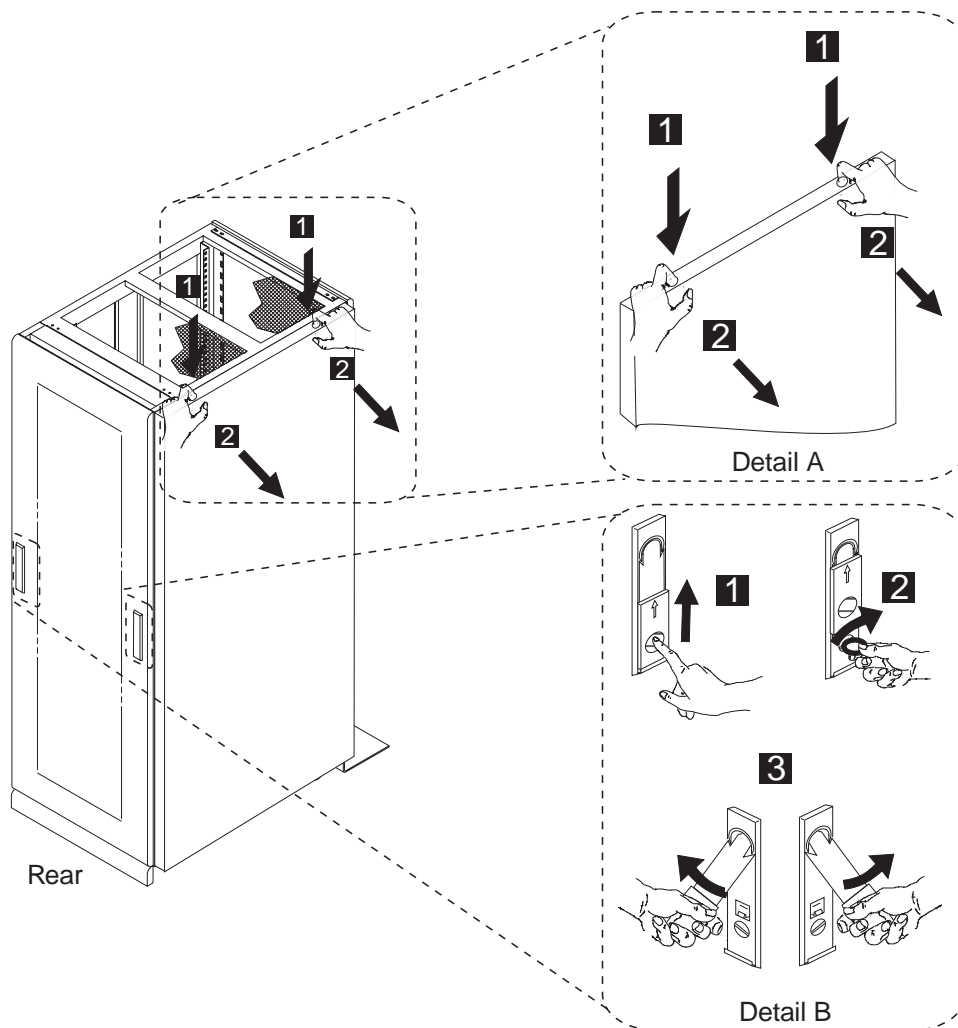

Figure 2-1. Front, Rear Door And Side Cover Latches in 37 U Rack
To open the front and rear doors see Figure 2-1 detail B, to remove the side covers see detail A.
1. \_\_\_\_ Open the front and rear doors (see Figure 2-1 on page 2-2)